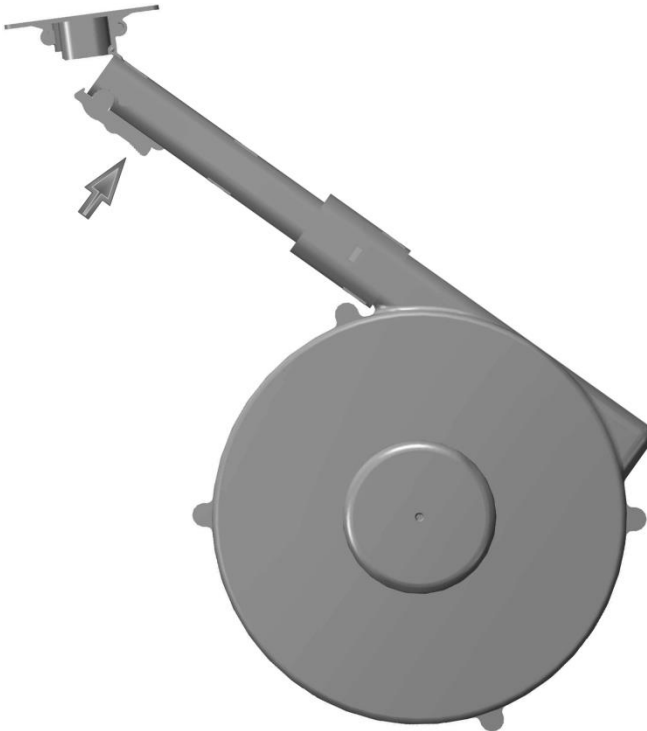

Figure 3: Hinged Top Shown Open
2. From the underneath of the TBUS unit, insert the extendable cable end of the **K-Able/XL Box** and align it with the mounting holes in the TBUS unit plate. Where conditions dictate, unlock the hinged top of the **K-Able/XL Box** (as shown in Figure 3) to make it easier to manipulate the **K-Able/XL Box** into position.